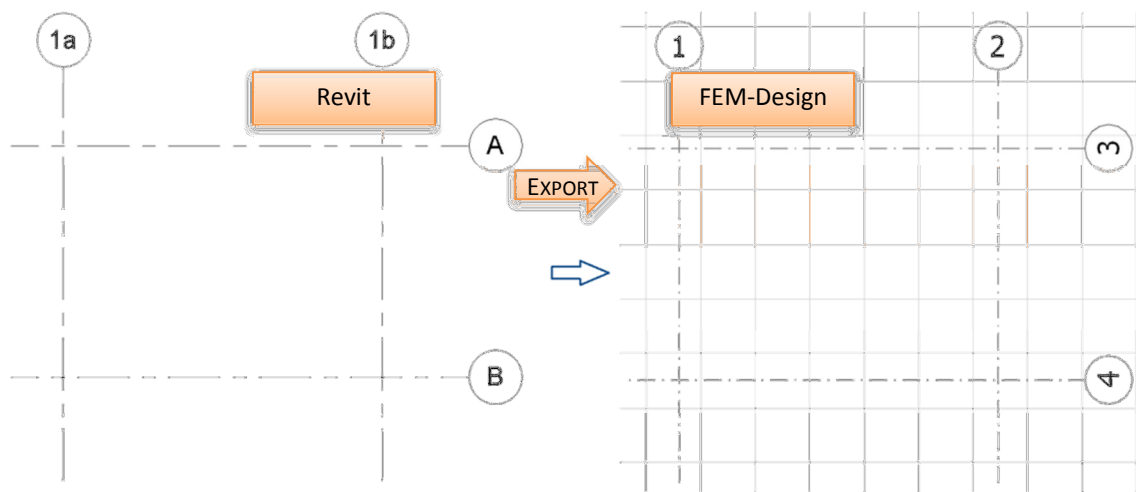

Figure II-20
- Names of the grids are not exported. Each axis in FEM-Design will receive a new number based on the order of grid creation in Revit, as shown in Figure II-20. If necessary, renaming can be performed in FEM-Design.